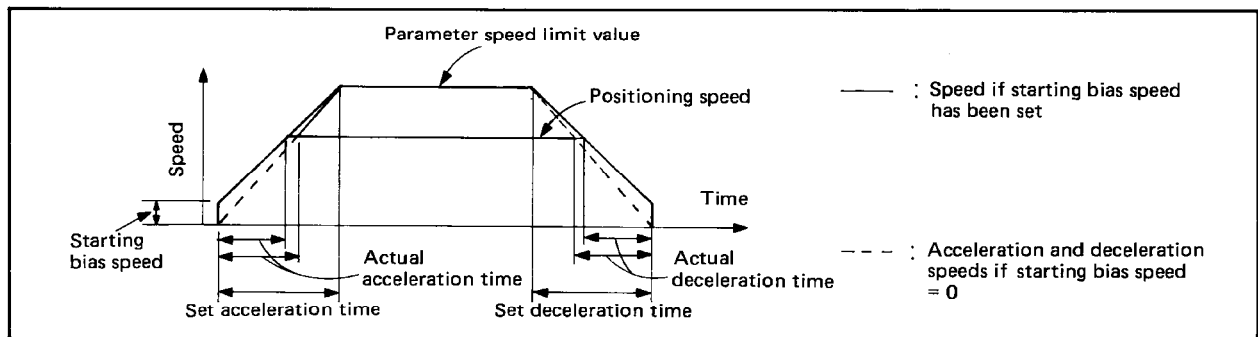

Fig. 2.5 Acceleration and Deceleration Times
(10) Manual pulse generator travel increment per pulse
(11) Acceleration and deceleration times
- Defines the period of time from the start of positioning to when the speed limit value specified in the parameter is reached. (Refer to Fig. 2.5.)